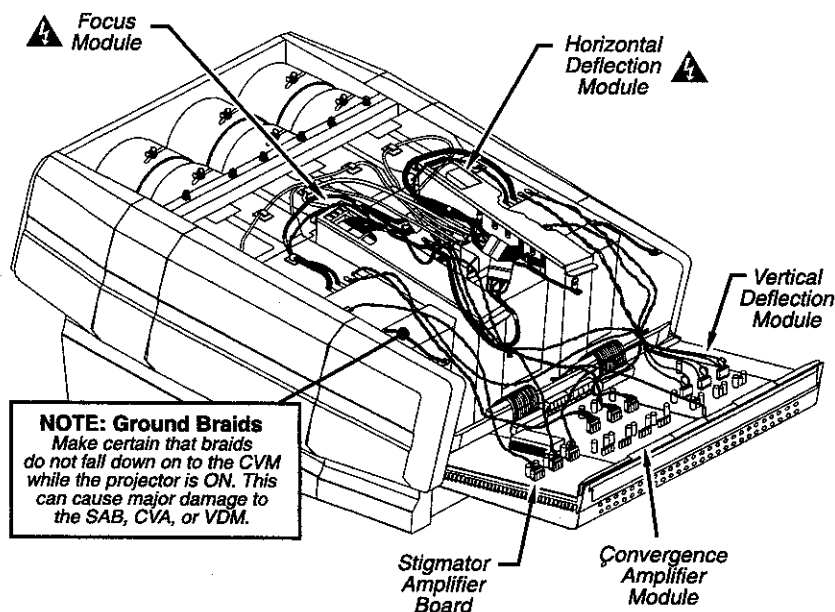

Figure 3-8. Internal Module Locations
- c) Locate the four screws at the top of the large heat sink (behind the rear panel) then lower the heat sink (it hinges at the bottom). The Stigmator Amplifier Board, Convergence Amplifier Module and Vertical Deflection Module (CVA and VDM are joined) should be completely visible. See Figure 3-8.